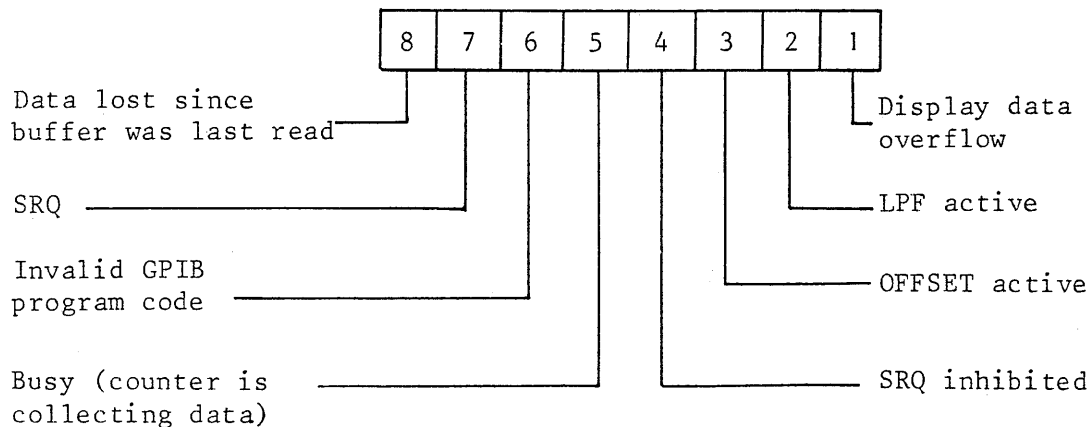

Fig. 6 Status byte
53. A status byte is prepared following receipt of Serial Poll Enable (SPE) or when 2440 raises SRQ. This consists of 8 bits, each of which is set true under the conditions shown in Fig. 6 and is sent to the controller when 2440 is addressed as a talker.